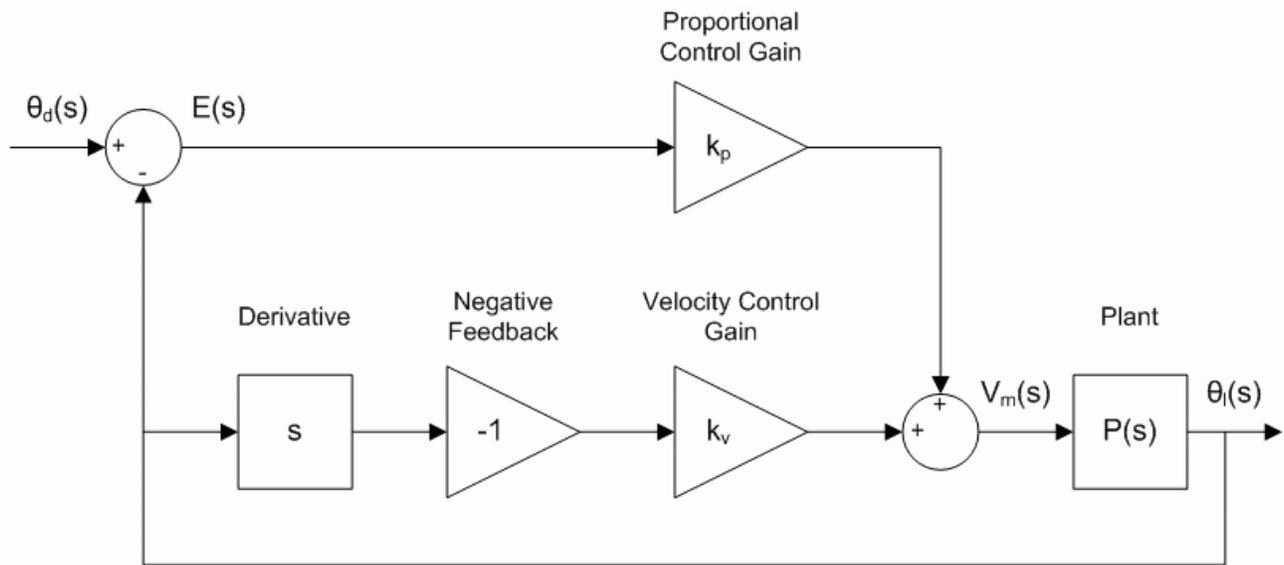

Figure 7: Block diagram of SRV02 PV position control.
where k_p is the proportional control gain, k_v is the velocity control gain, $\theta_d(t)$ is the setpoint or reference load angle, and $\theta(t)$ is the measured load shaft angle, and $V_m(t)$ is the SRV02 input voltage. The block diagram of the PV control is illustrated in Figure 7.
1. Find the closed-loop SRV02 position control transfer function, $\Theta(s)/\Theta_d(s)$, using the time-domain PV control in Equation [8], the block diagram in Figure 7, and the process model in [2]. Assume the zero initial conditions, thus $\theta(0^-) = 0$.
and it can be obtained by taking the Laplace transform of [8] or using the block diagram in Figure 7. Substituting this into the process transfer function in [2] and solving for $\Theta(s)/\Theta_d(s)$ gives the SRV02 closed-loop transfer function